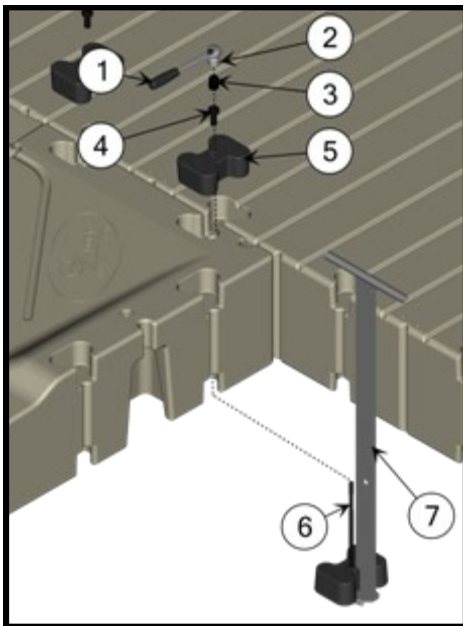

Figure 9.
8. Pull up on the in-water installation tool to seat the bottom coupler. (**NOTE:** The EZ Dock and EZ Pontoon Lift must be sitting level on the water and at the same elevation for the coupler to properly seat into the bottom pocket. This may require a counter balance weight toward the entry end of the EZ Pontoon Lift to offset the weight of the installer who is standing at the seam between the EZ Pontoon Lift and the EZ Dock). The coupler is fully seated in its pocket when the indicator hole on the in-water installation tool (Figure 9) is flush with the top of the dock (you should be able to insert a screwdriver through the indicator hole).